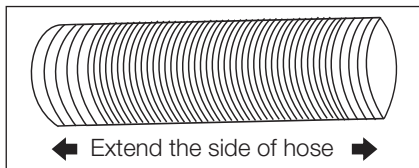
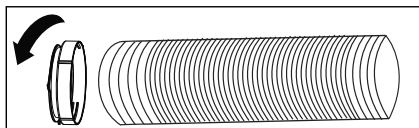

Fig. 4
Fig. 5
2. Extend either side of the hose (Fig. 4) and screw the hose to adaptor A (Fig. 5).